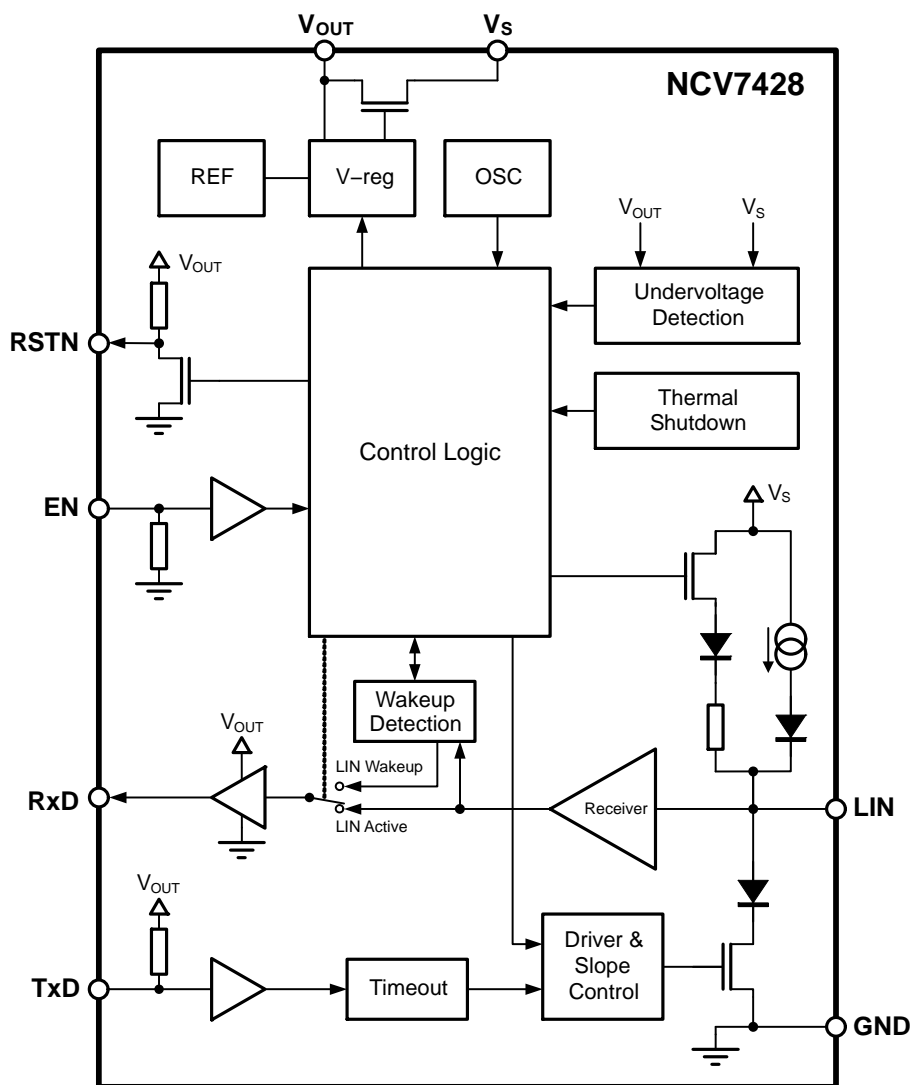

Figure 1. Block Diagram
- The voltage drop in Normal mode between LIN and  $V_S$  pin is the sum of the diode drop and the drop at serial pull-up resistor. The drop at the switch is negligible. See Figure 1.